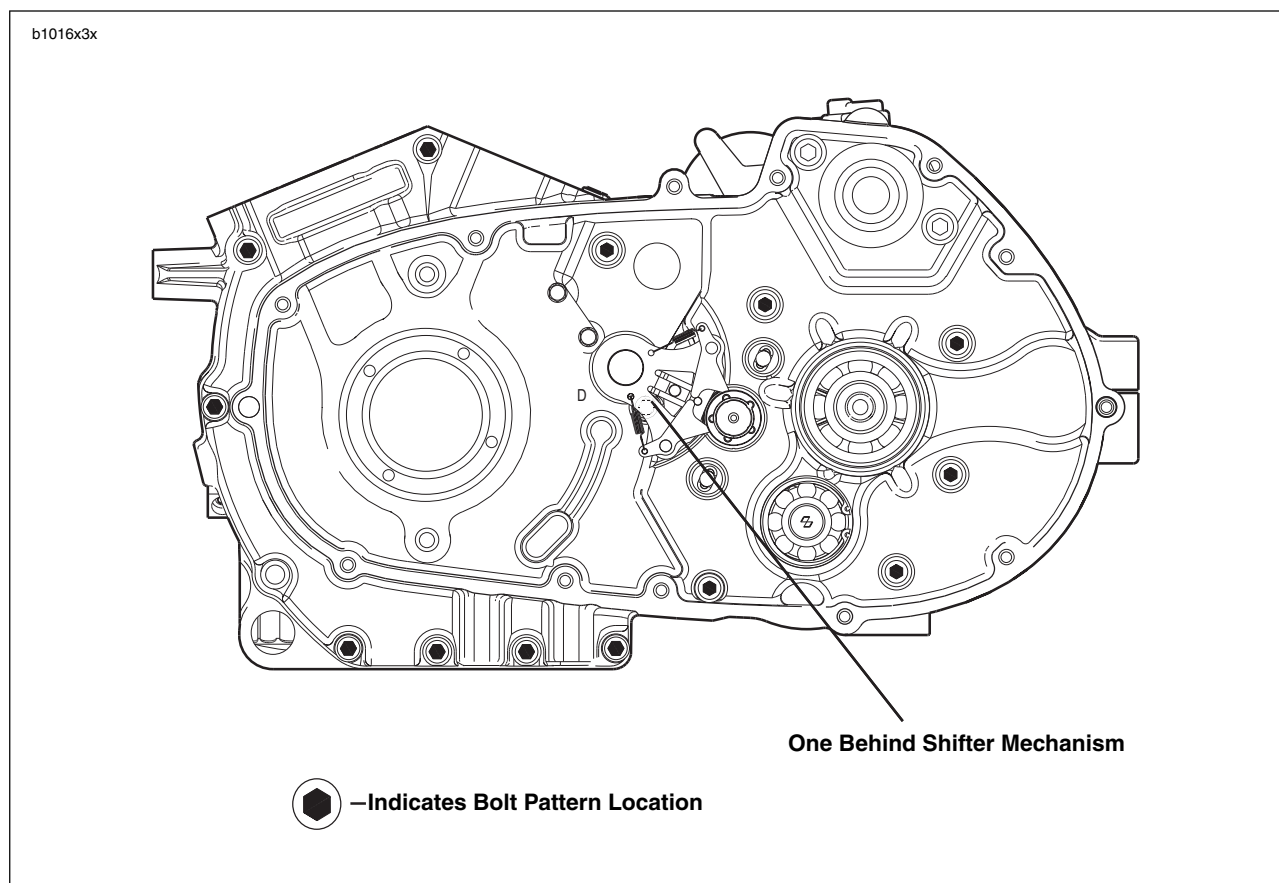

Figure 3-132. Crankcase Fasteners
8. See Figure 3-132. Remove screws securing crankcase halves together.